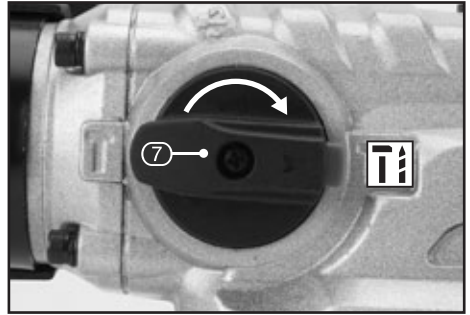

FIG.6
9.3 HAMMER DRILLING – FIGS.6 – 7
- Rotate the drilling/chiselling selector (7) to the hammer and drill setting.
- Switch the rotary/hammer selector (5) to the drill and hammer setting.